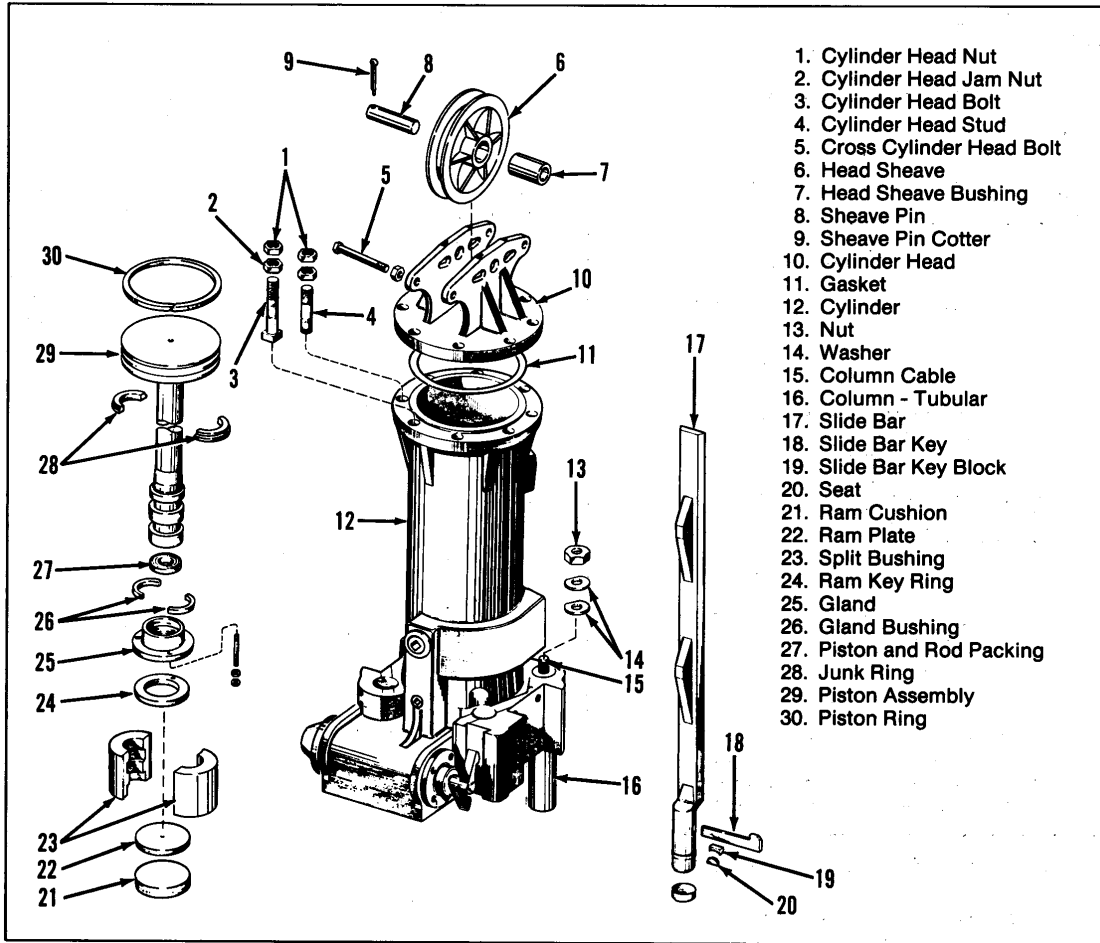

Figure 5.7.2.1 Cylinder Assembly
- 1) Place the hammer in a vertical position. See Figure 5.7.2.1.